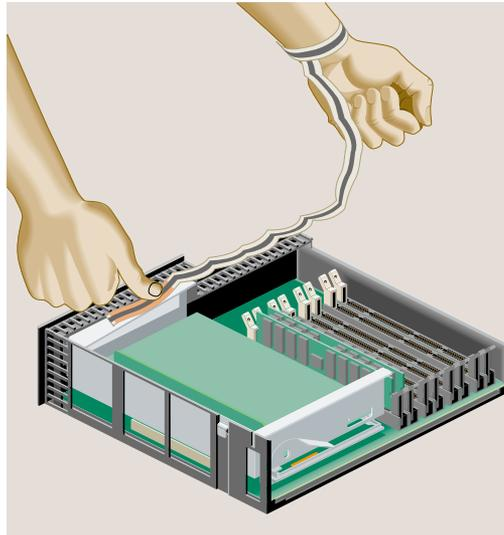

Figure 2-11 Attaching the Wrist Strap
- Attach the copper foil to the PCI tray. Attach the wrist strap to your wrist and to the PCI tray (Figure 2-11).